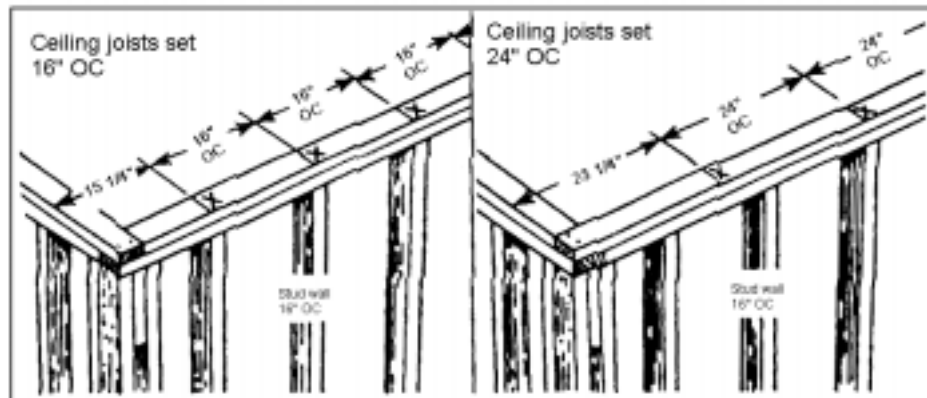

Figure 051-236-1144-2
- b. Lay out the top plate for the ceiling joists (Figure 051-236-1144-2).